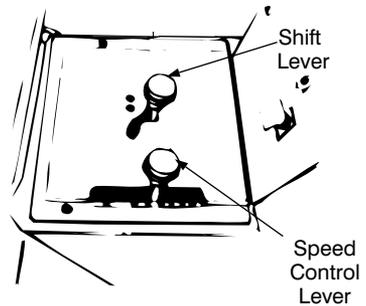

FIGURE 9
The shift lever is located in the center of the console and has three positions, FORWARD, NEUTRAL and REVERSE. See figure 9. The clutch-brake pedal must be depressed and the lawn tractor must not be moving when shifting gears. Do not force the shift lever. Release the clutch-brake pedal slightly to line up the shifting collar in the transmission. Then try to shift gears.
4. Set the throttle control in the FAST POSITION. See figure 9.
6. Turn the ignition key to the START position. When the engine is running, let the key return to the ON position. See figure 9.